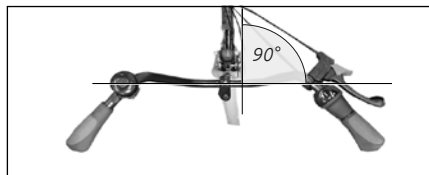

Fig.:24
3. Adjust the handlebar direction so that the handlebar is at a 90° angle to the front wheel (see "Fig.:24").